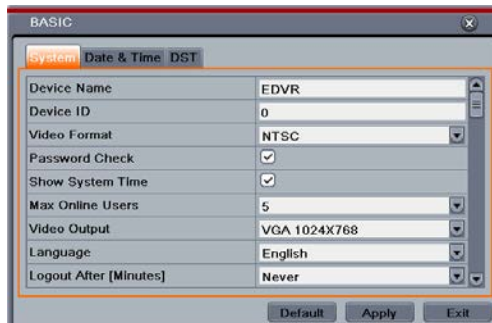

Fig 5-3 Basic Configuration-Basic
Step 1: Enter into Menu→Setup→Basic→System. Refer to Fig 5-3: